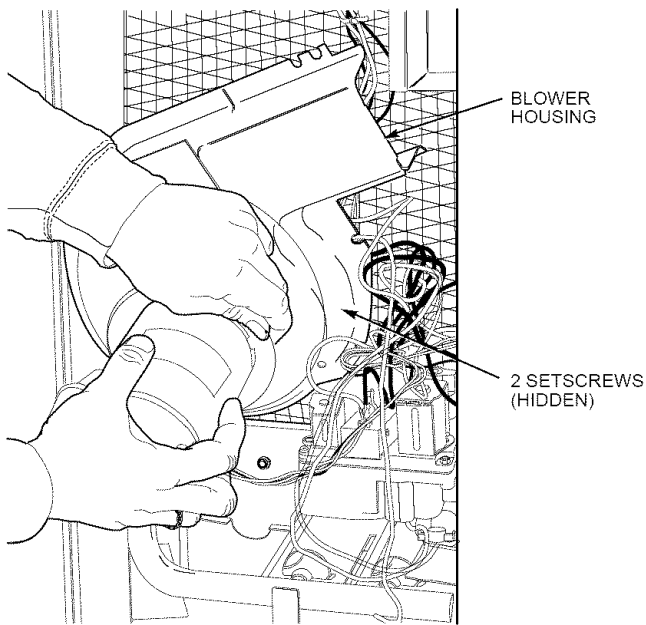

Fig. 31—Removal of Motor and Blower Wheel
3. Slide the motor and blower wheel assembly out of the blower housing (See Fig. 31). Clean the blower wheel. If additional cleaning is required, continue with Steps 4 and 5.
4. To remove blower, remove 2 setscrews (See Fig. 31).